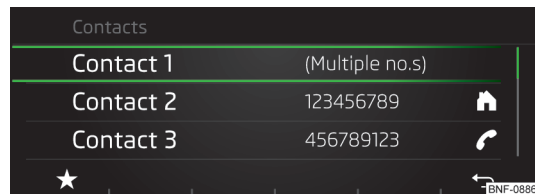

Fig. 113
► Pressing the function key ☆ » Fig. 113 displays a menu for storing the preferred contact » page 84, Preferred contacts (favourites).